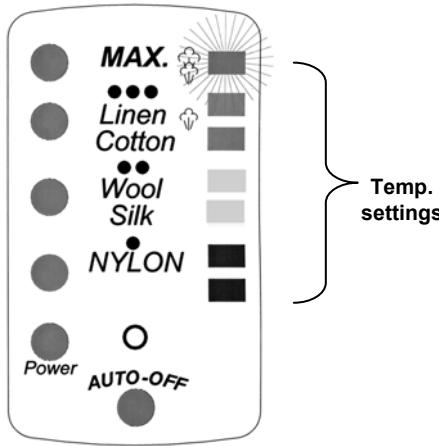

Fig. 5
- 4. The light on the right side of the LED display panel will stop flashing when the desired temperature has been reached. (Fig. 5)